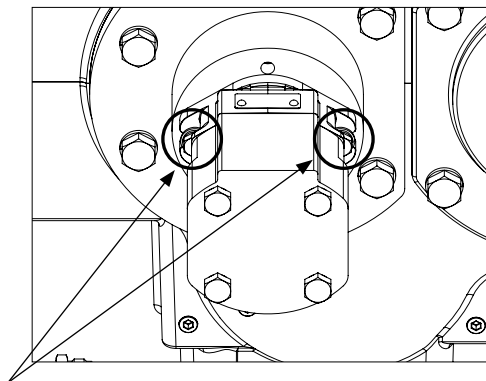
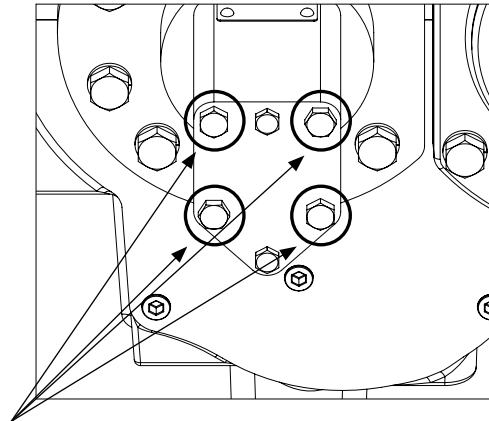
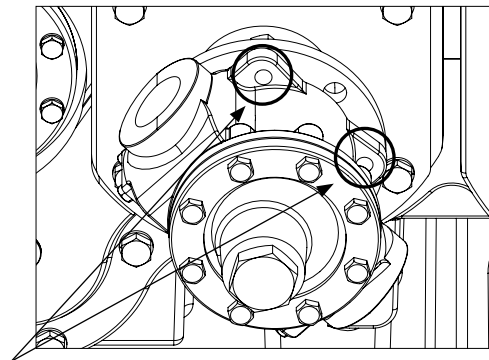

FIGURE 14 — 2-fastener flange mounted pump. Note hoses and fittings not shown for clarity.
FIGURE 15 — 4-fastener through body style pump. Note hoses and fittings not shown for clarity.
FIGURE 16 — 4-fastener flange mount style (fasteners threaded into pump). Note hoses and fittings not shown for clarity.
- e. Apply Loctite 242 threadlocker or equivalent to the set screw threads and re-insert them into the hub. Torque to approximately 10 Ft-lbs [13.6 N-m] of torque for pump styles shown in Figure 14 and Figure 15, and approximately 23 Ft-lbs [31.2 Nm] for pump style shown in Figure 16.
8. Apply Loctite 242 threadlocker to the pump fasteners and reinstall. Torque to 32-39 Ft-lbs for pump styles shown in Figure 14. Torque to 16-20 Ft-lbs for pump styles shown in Figure 15. Torque to 61-74 Ft-lbs for pump style shown in Figure 16.